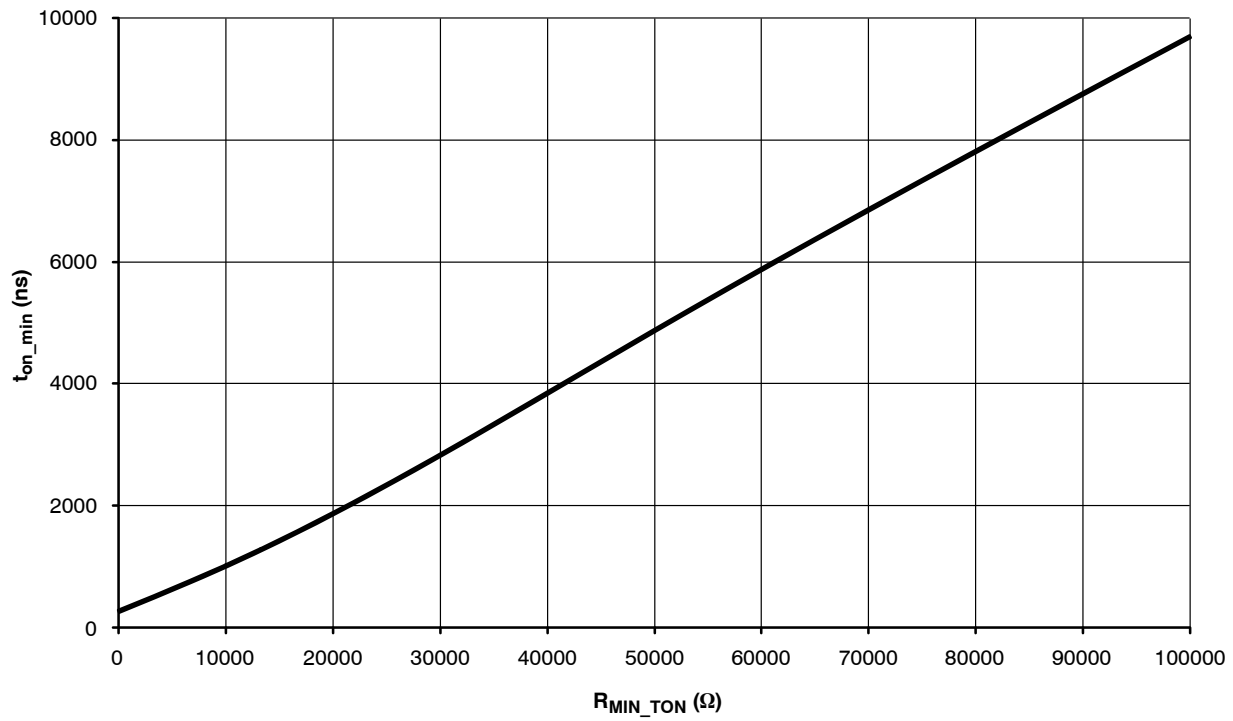

Figure 4. t_{on_min} on R_{MIN_TON} Dependency
2. Guaranteed by design and verified by characterization, see Figure 4. t_{on_min} on R_{MIN_TON} dependency.